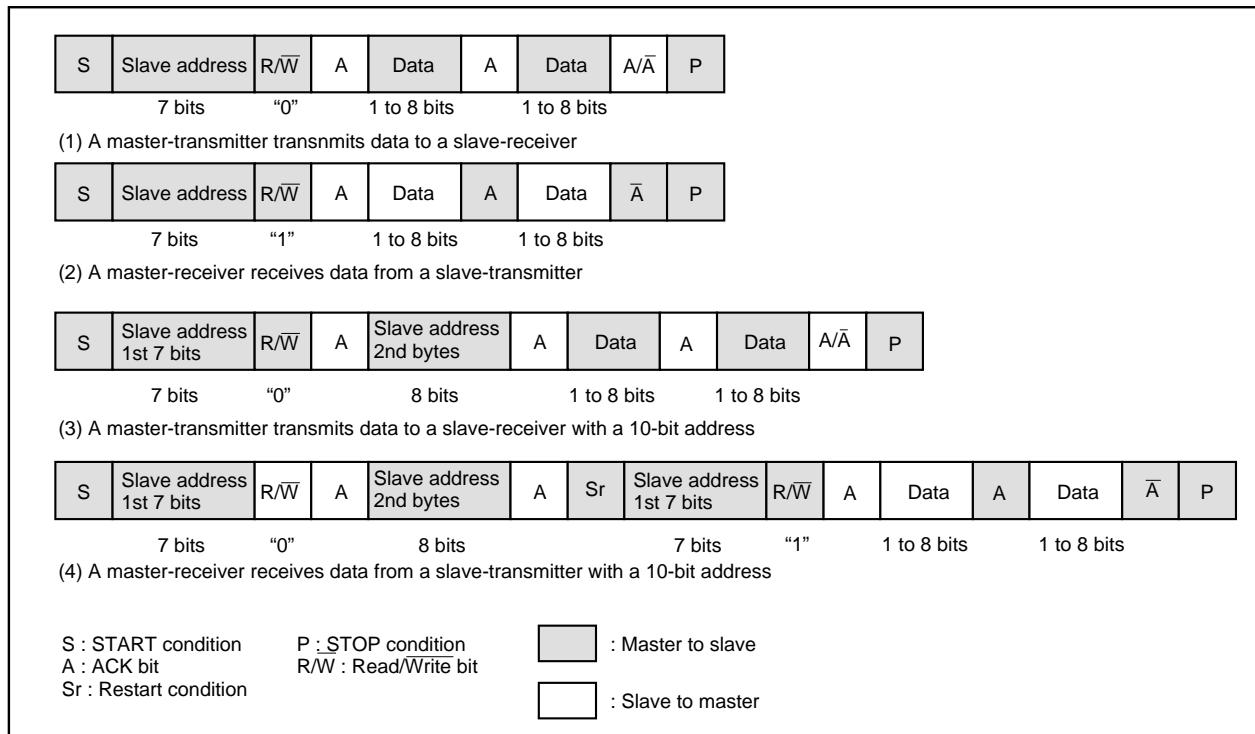

Fig. 35 Address data communication format
① 7-bit addressing format
To adapt the 7-bit addressing format, set the 10BIT SAD bit of the I²C control register (address 002E₁₆) to "0." The first 7-bit address data transmitted from the master is compared with the high-order 7-bit slave address stored in the I²C address register (address 002C₁₆). At the time of this comparison, address comparison of the RWB bit of the I²C address register (address 002C₁₆) is not performed. For the data transmission format when the 7-bit addressing format is selected, refer to Figure 35, (1) and (2).
② 10-bit addressing format
When the first-byte address data agree with the slave address, the AAS bit of the I²C status register (address 002D₁₆) is set to "1." After the second-byte address data is stored into the I²C data shift register (address 002B₁₆), perform an address comparison between the second-byte data and the slave address by software. When the address data of the 2 bytes agree with the slave address, set the RWB bit of the I²C address register (address 002C₁₆) to "1" by software. This processing can make the 7-bit slave address and R/W data agree, which are received after a RESTART condition is detected, with the value of the I²C address register (address 002C₁₆). For the data transmission format when the 10-bit addressing format is selected, refer to Figure 35, (3) and (4).